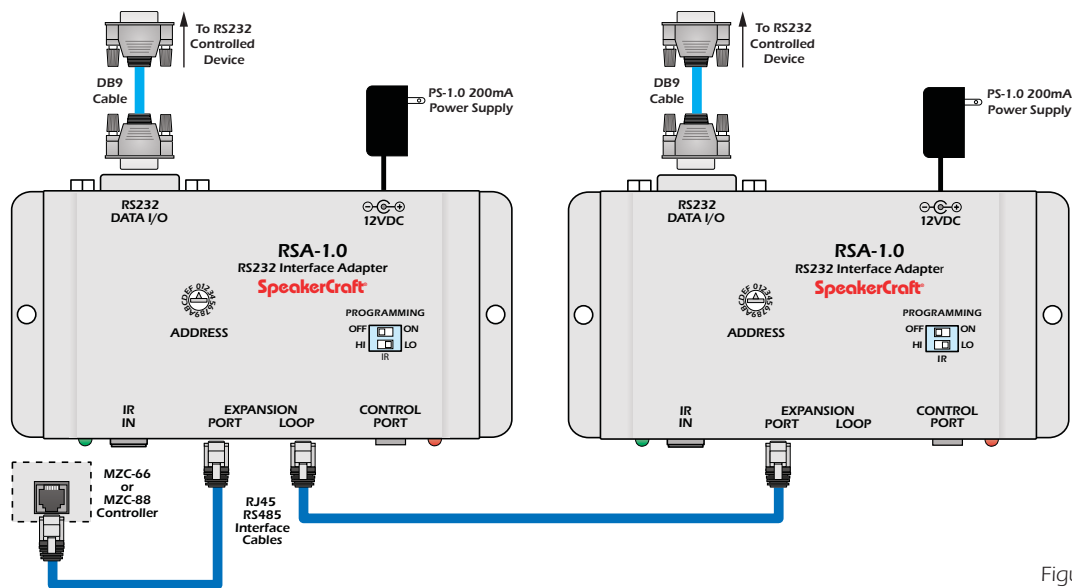

Figure 2
1. Using a properly terminated CAT-5 cable (pass-through, pin to pin configuration) connect the **Expansion Loop** on a SpeakerCraft MZC-66/88 to the **Expansion Port** on a RSA-1.0. **(Refer to Figure 2)**
2. Using a properly configured DB9 cable to connect the **RS 232 DATA I/O Port** on the RSA-1.0 to an appropriate RS 232 Data I/O Port on the device being controlled. **(Refer to Figure 2)**
3. If using multiple RSA-1.0's using a properly terminated CAT-5 cable (pass-through, pin to pin configuration) connect the **Expansion Loop** on a RSA-1.0 to the Expansion Port on the next RSA-1.0. **(Refer to Figure 2)**
4. Using properly configured DB9 cables (pass-through, pin to pin configuration) connect the **RS 232 DATA I/O Ports** on the RSA-1.0's to the appropriate RS 232 Data I/O Ports on the devices being controlled. **(Refer to Figure 2)**
5. When all other connections have been made and the system is ready for programming/operation, connect a SpeakerCraft **PSA-1.0 12VDC 200mA Power Supply** to the **12VDC Power Jack** on each RSA-1.0. **(Refer to Figure 2)**